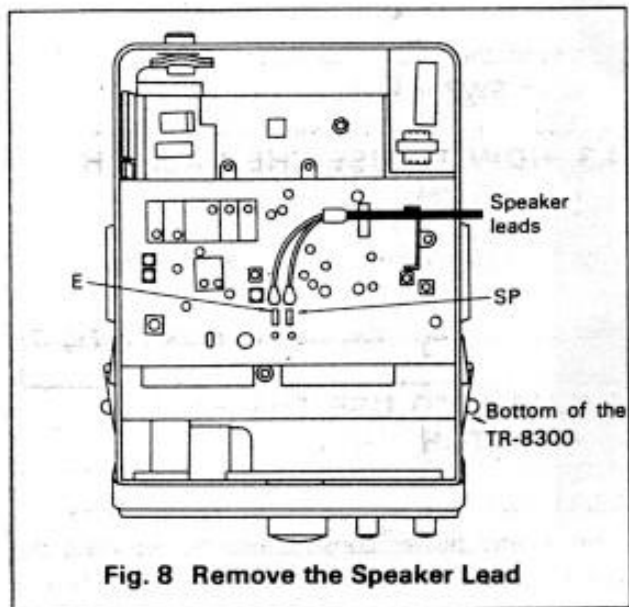

Fig. 8 Remove the Speaker Lead
3. Disconnect the speaker leads from the PC board (X55-1160-11) (see Fig. 8).